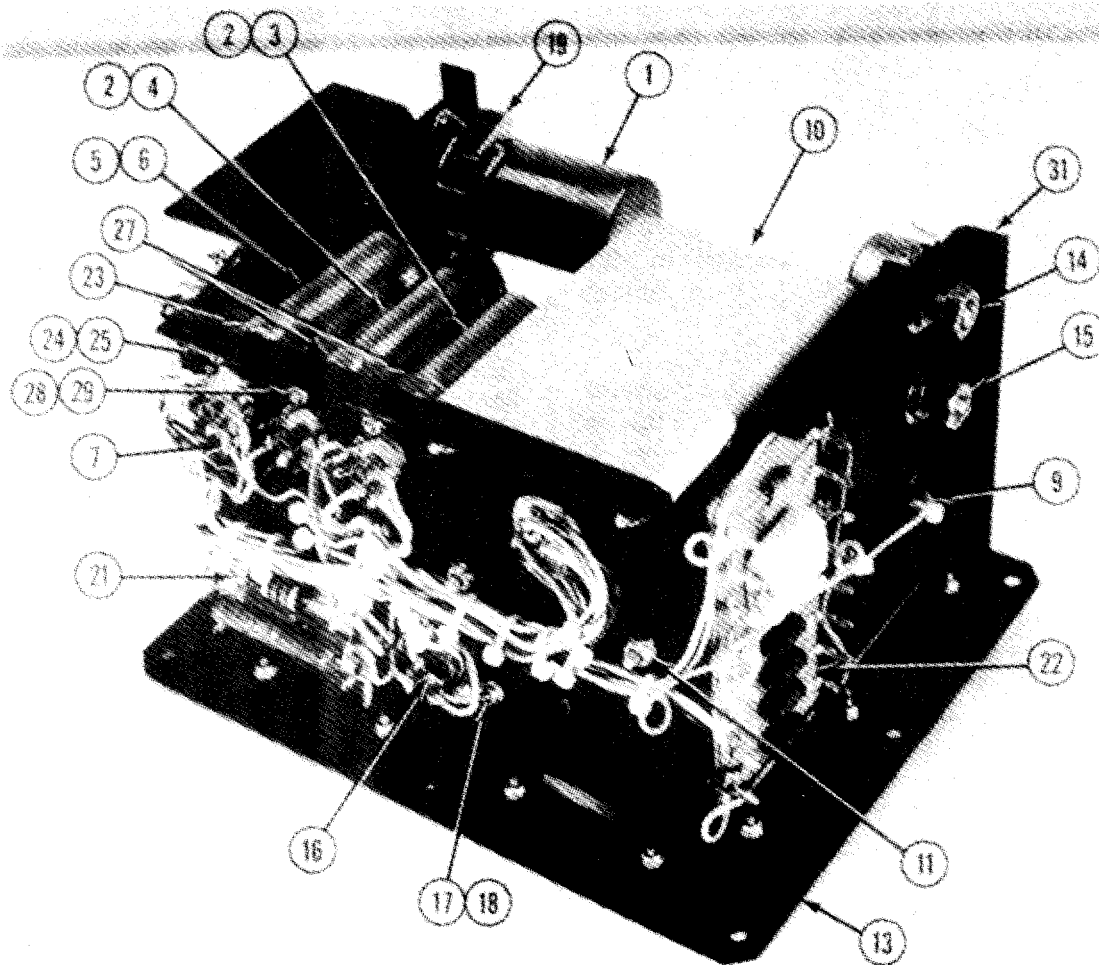

Figure 4-9. BH146 Takcal assembly (sheet 1 of 2).
(4) Unsolder all connecting wiring from RPM check assembly.
(5) Loosen setscrews and remove knobs from potentiometer (61) and selector switch (12, fig. 4-9). Remove seal nut from selector switch.
b. Disassembly (Figure 4-9).
(1) Unlatch clamp (19) and remove relay (1) by unplugging from socket.
(2) Remove tube shields and tubes (para. 4-36).